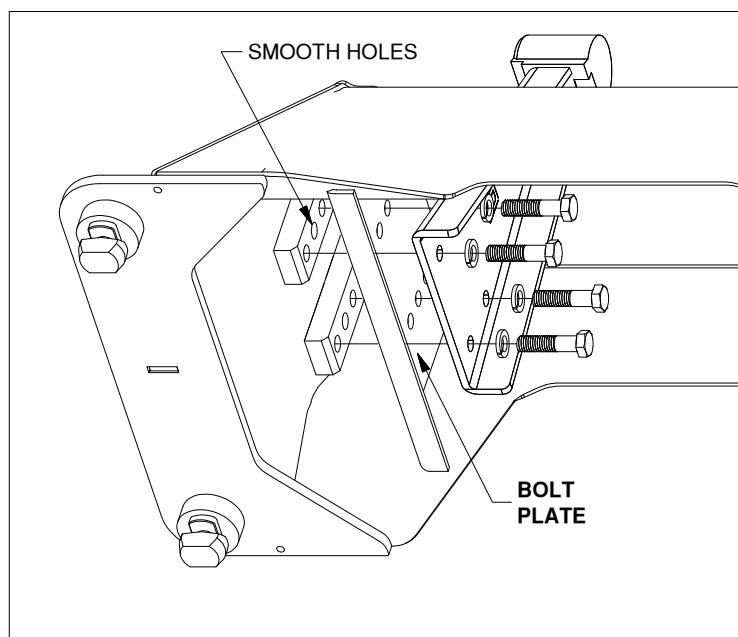

Figure A3: Passenger pivot arm mounting location.
3. **Secure arms.** Locate both pivot arms, the four threaded blocks, eight 1/2" cap screws, and eight 1/2" lock washers. Place the lock washers over the cap screws. Align the flat side of the pivot arm flat against the bolt plate and install four 1/2" cap screws through the holes on the arm, holding the arm in place, as shown in Figure A3. Locate the threaded blocks. Note that the sides of the block have threaded holes on one side and smooth bored holes on the other side. When installing the threaded blocks, it is critical that the side with the smooth holes is flat against the bolt plate when installed. It is also critical that each of the five holes in the threaded block match up with the five vertical holes in the bolt plate. Pass the threaded block under the base's side, align the block with each set of screws, and start each screw, as shown in Figure A3. After all the screws are started through the arms, torque each bolt to 110 ft-lbs.